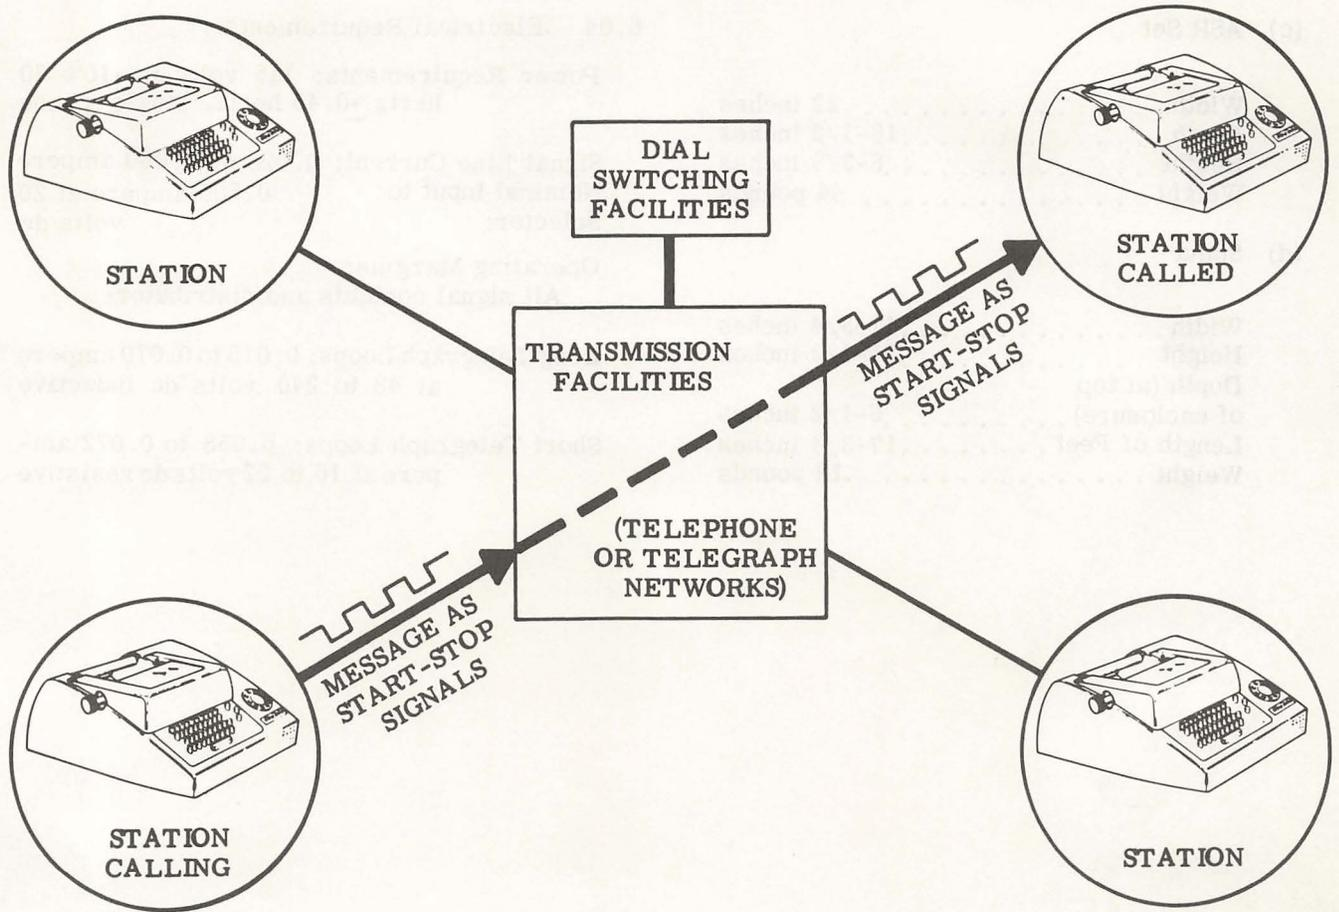

Figure 5 - Typical Applications
5.01 The following is a brief description of how 33 Teletypewriter Sets, equipped with call control and answer-back features, may be used in a typical communication system (Figure 5). When a call is to be made, an operator uses the controls on the teletypewriter set to gain access to the system switching and transmission facilities, which may be dial telephone or telegraph networks. The operator then dials the number of the called station.